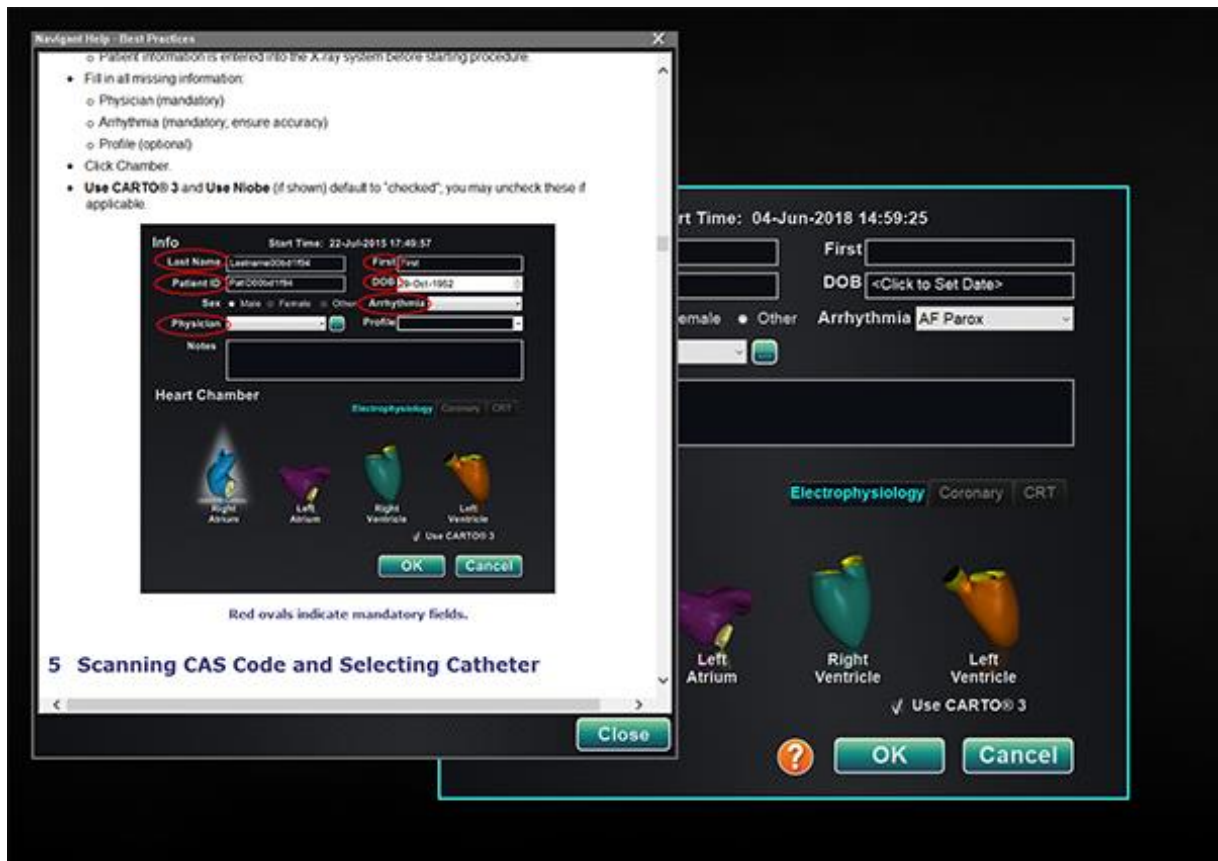

Figure 30. Help Dialog for new procedure information window
- ⑧ **Mapping System Selection.** (Displays only on the Electrophysiology tab.) The dropdown box provides the opportunity to select the mapping system for use with the procedure. All compatible mapping systems that are connected will be shown in the list.
- ⑨ **Profile field.** Click the down arrow to the right of the field to choose a procedure if working with previously entered information.
**Help Dialog button.** Displays Help Dialog (**Figure 30**) for fields on this screen.